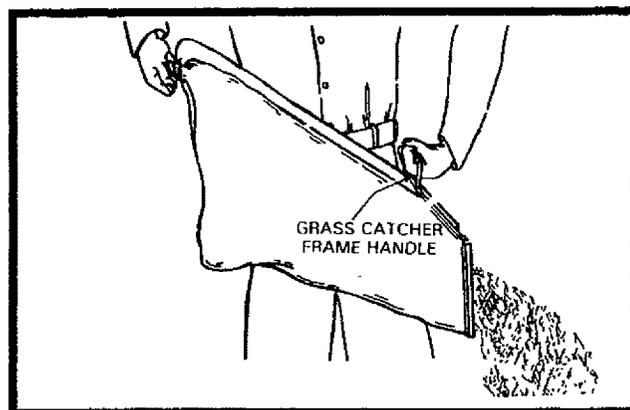

FIG. 7
- Empty by shaking catcher with open end downwards (See Fig. 7).